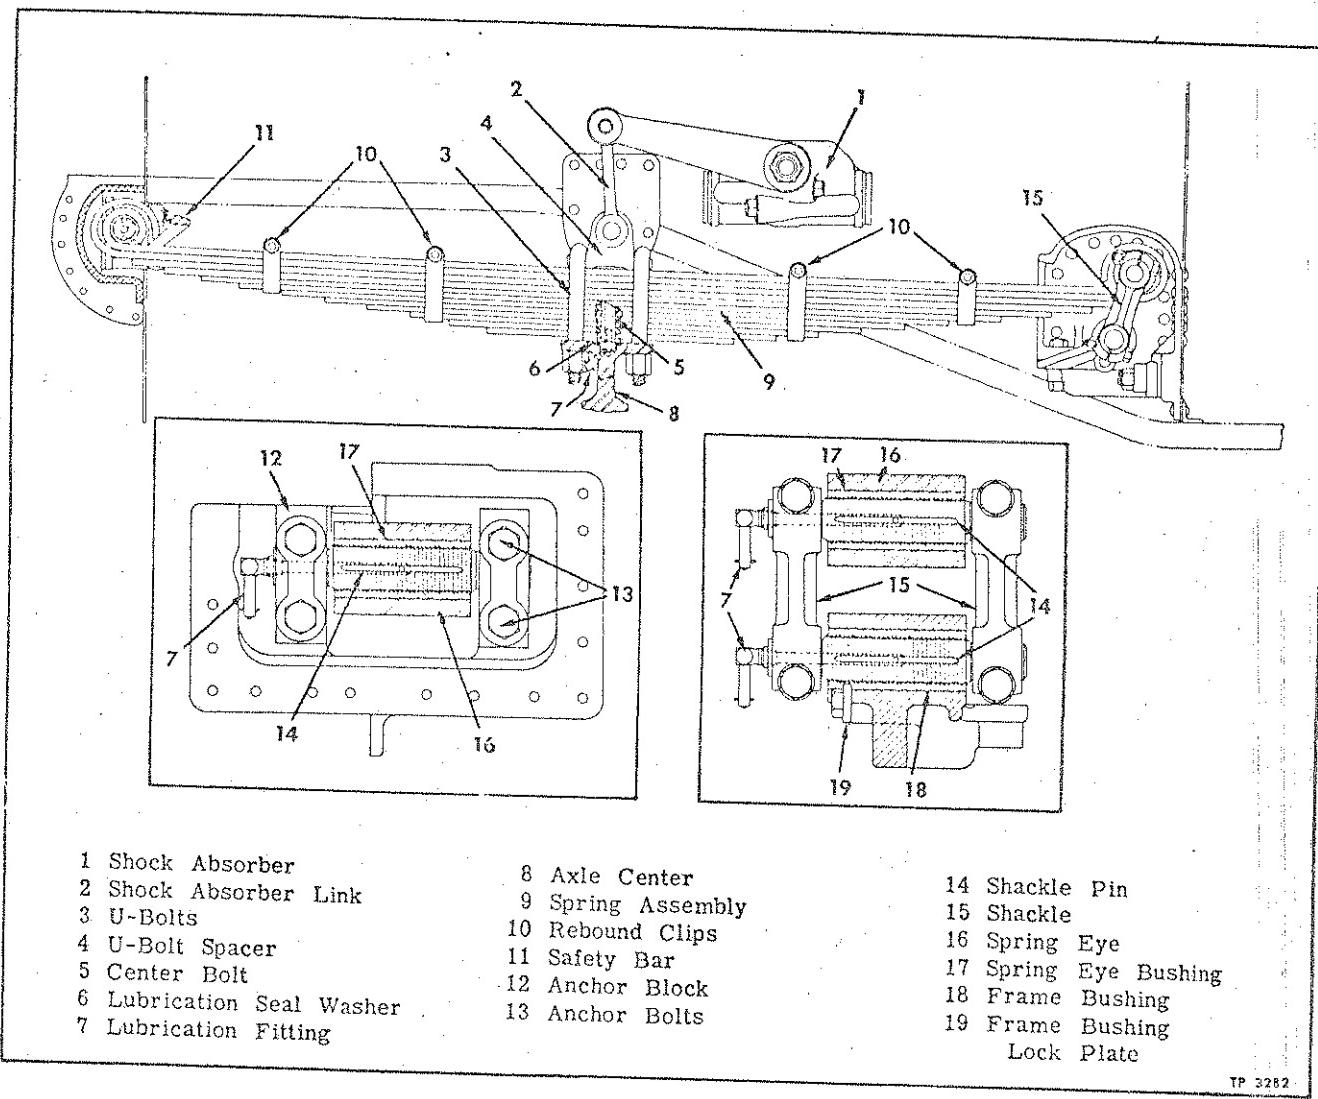
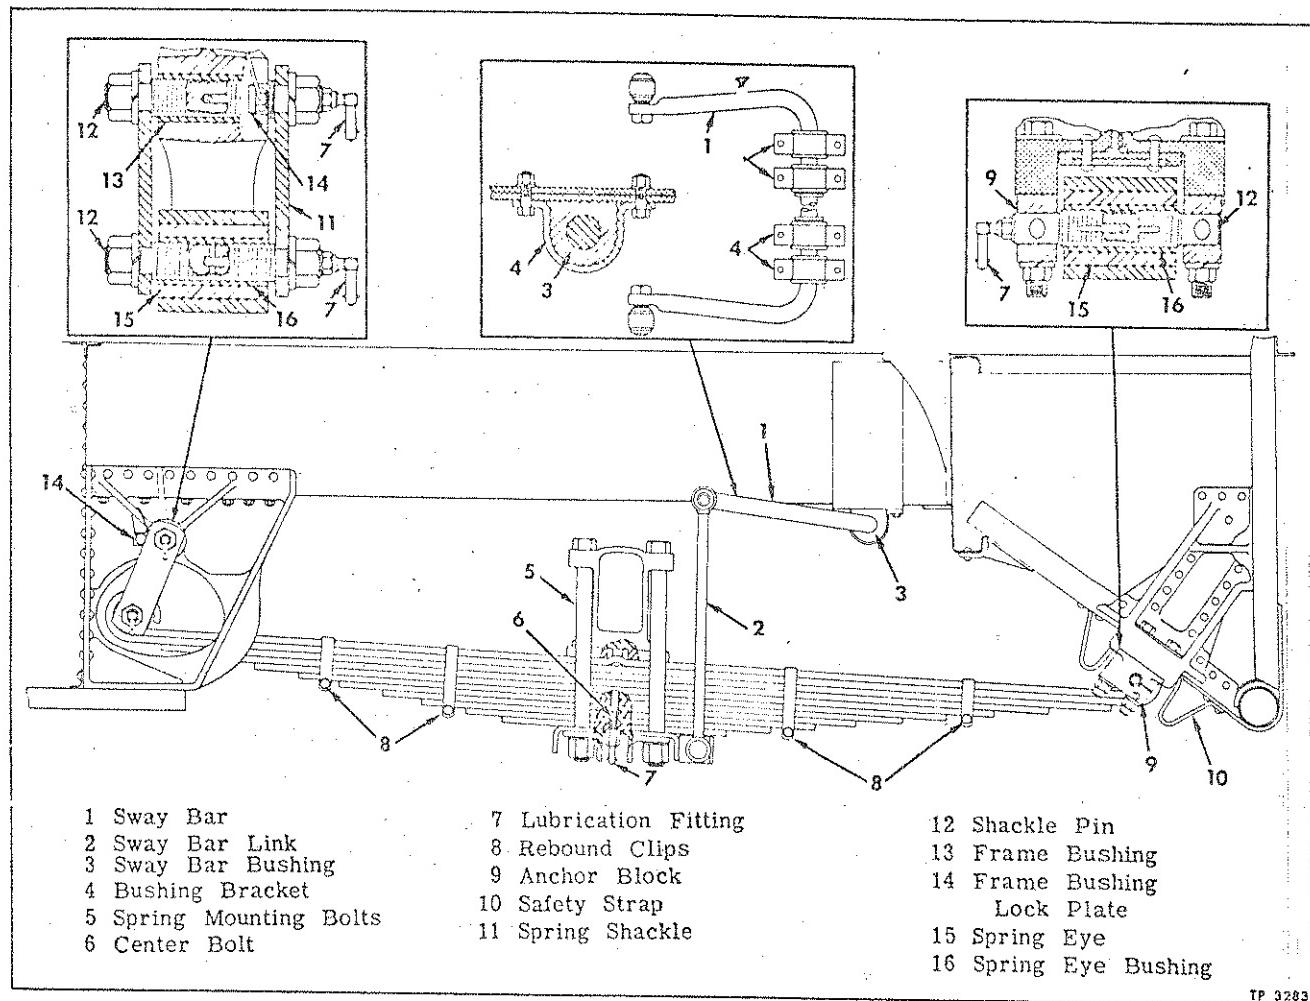

Figure 1—Front Spring Mounting and Shock Absorber Installation
Figure 2—Rear Spring Mounting and Sway Bar Installation
Vehicle chassis and body are supported by semi-elliptic type springs. Front springs are mounted on I-beam of front axles (fig. 1), while rear springs are suspended from rear axle housing (fig. 2). Each front spring assembly is attached to front axle with two U-bolts. Rear springs are bolted to rear axle housing with four straight bolts. Front ends of front springs are held in stationary brackets; rear ends are shackled to allow longitudinal movement (fig. 1). Rear springs are shackled at forward ends, while rear ends are held in stationary brackets (fig. 2).
On front springs, lubrication fitting is installed in a drilled opening in front axle, which leads to center bolt, as shown in figure 1. On rear springs, lubrication fitting is installed in an adapter threaded onto center bolt (fig. 2). Center bolts are grooved to permit passage of lubricant to center portion of spring leaves.
front and rear springs. Pins are drilled and equipped with pressure gun lubrication fittings, (figs. 1 and 2), to provide facilities for lubricating spring eye bushings and frame bushings. NOTE: Upper shackle pin bushing, on left rear spring, is lubricated through tube mounted in shackle bracket. Shackle pins should be lubricated periodically as directed in Lubrication (Sec. 13, of this manual).
5. After placing support under spring assembly, to keep spring from dropping on floor, complete removal of spring assembly to axle mounting bolts; thereby disconnecting spring from axle and completing removal of spring. Remove and discard lubrication seal washer (6, fig. 1).
1. Install new lubrication seal washer (6, fig. 1) in recess in axle center, position spring on I-beam of front axle correctly, place U-bolt spacer on spring, then install U-bolts, tightening nuts securely.
1. Install spring eye bushings, use arbor press and suitable bushing driver. Make sure bushing is aligned with hole in spring eye before attempting to press bushing into place. NOTE: Ends of bushings should be flush with sides of spring eyes as shown in figures 1 and 2.
2. Apply a coating of lubricant specified in Lubrication (Sec.13, of this manual) to spring leaves, stack spring leaves in correct order, then align the center bolt hole. Place assembly in arbor press, or use two C-clamps to compress leaves, then install center bolt. Center bolt should be installed as shown in figures 1 and 2.
brackets with four U-shaped clips as shown in figure 2. Arms of sway bar extend toward front of vehicle and are connected to spring retainer plate assembly with rubber bushed link arms.